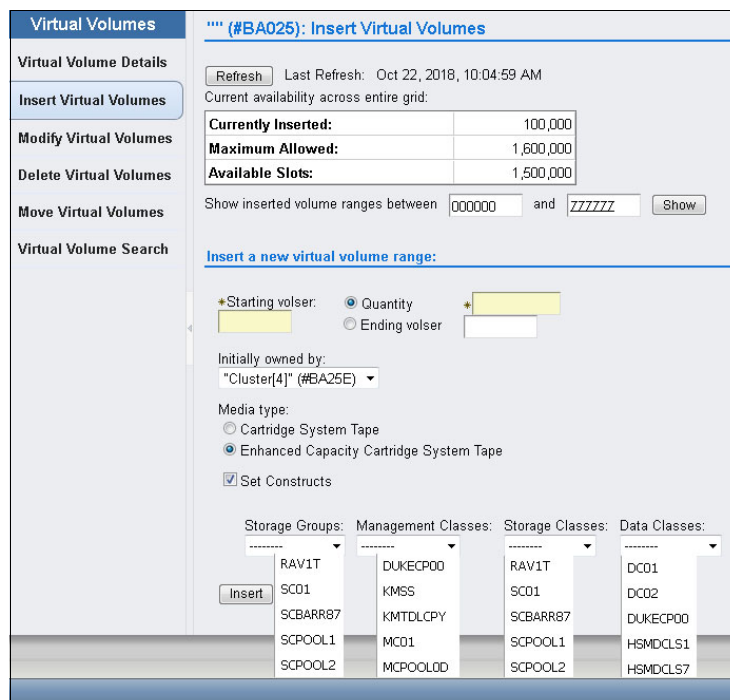

Figure B-6 Insert logical volumes by assigning static construct names
2. Insert your logical volumes into groups through the TS7700 MI, as described in 11.2.2, “TS7700 definitions” on page 578. You can assign the required static construct names during the insertion, as shown at the bottom part of the window in Figure B-6 on page 898.
2. Insert your logical volumes into groups through the TS7700 MI, as described in 11.2.2, "TS7700 definitions" on page 578. You can assign the required static construct names during the insertion as shown at the bottom part of the window in Figure B-6.
3. On the left side of the MI, click **Virtual** → **Virtual Volumes** → **Insert Virtual Volumes**. The window that is shown in Figure B-6 opens. Use the window to insert virtual volumes. Select the **Set Constructs** option and enter the construct names.